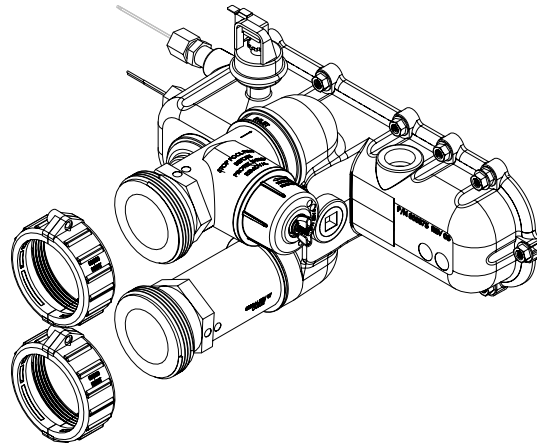

Figure 74. In/Out Header
2. On the water connection, close any isolation valve to isolate the heater. Loosen the ring nuts at the inlet and outlet water connections. Allow all water drain fully from the outlet connection. See **Figure 74**.